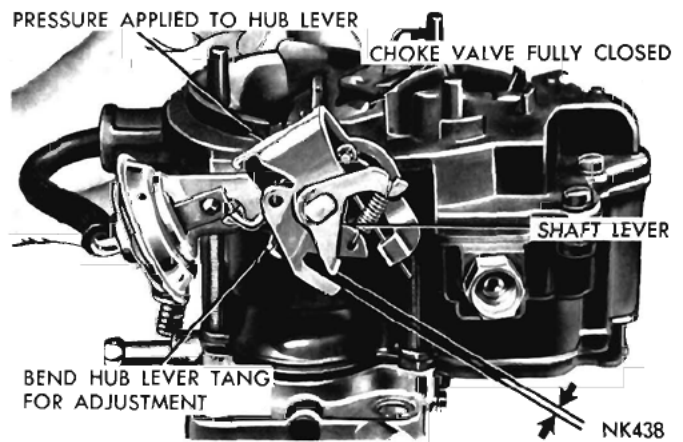

Fig. 25—Spring Staged Choke Clearance
The new spring staged choke, shown in (Fig. 25) is a device incorporated in the choke mechanism which limits the choke blade closing torque when cranking the engine at temperatures below zero. Thus the spring staging of the choke is a better match for the engine's starting mixture requirements at the low temperatures.
To test the spring staged choke for correct operating clearance, refer to (Fig. 25), then proceed as fol-
(1) Push on the hub lever with the finger, at the closed choke position. A small opening should exist between the shaft and the hub levers, as shown in (Fig. 25).
(2) Using a drill or gage, measure the opening. The opening should be from .010 to .040 inch.
(3) If an adjustment is necessary, bend the hub lever tang until the correct opening has been obtained.